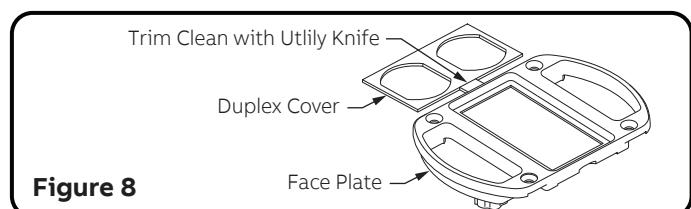

Figure 8
10. Trim duplex cover from face plate using utility knife. Place duplex cover on top of duplex receptacle before installing face plate (see Figures 8 and 9).